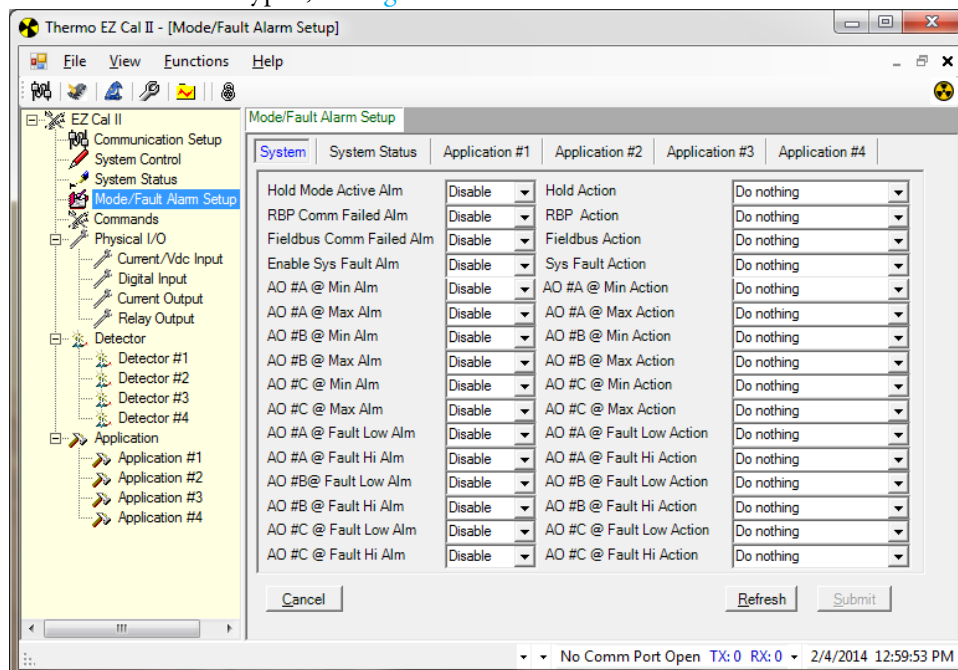

Figure 4-6. Mode/Fault Alarm Setup, System Tab
- The System tab, shown in Figure 4-6, allows the user to configure system-wide alarms.